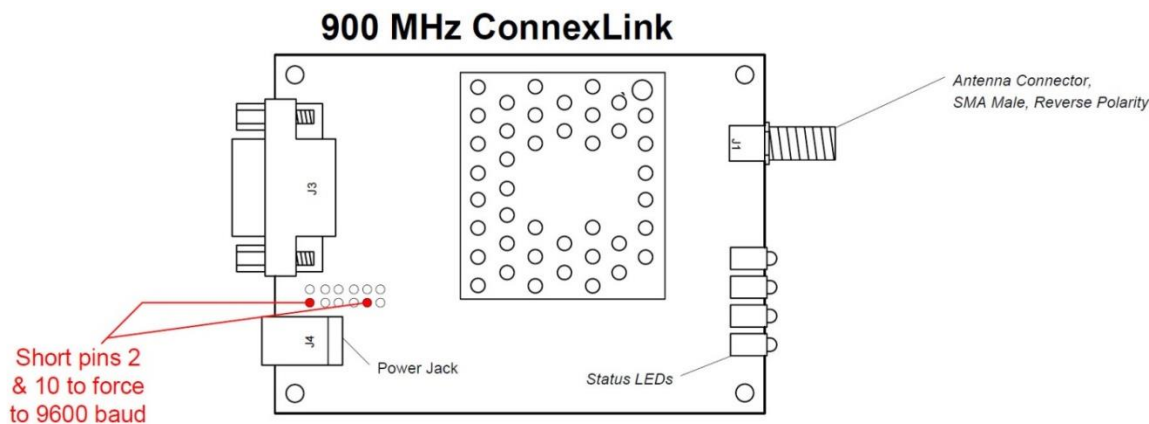

Figure 3: CL4790 with jumper pins highlighted
3. Set a jumper (a wire or even a pair of tweezers work because it is a low voltage line) between the pins indicated in Figure 3.